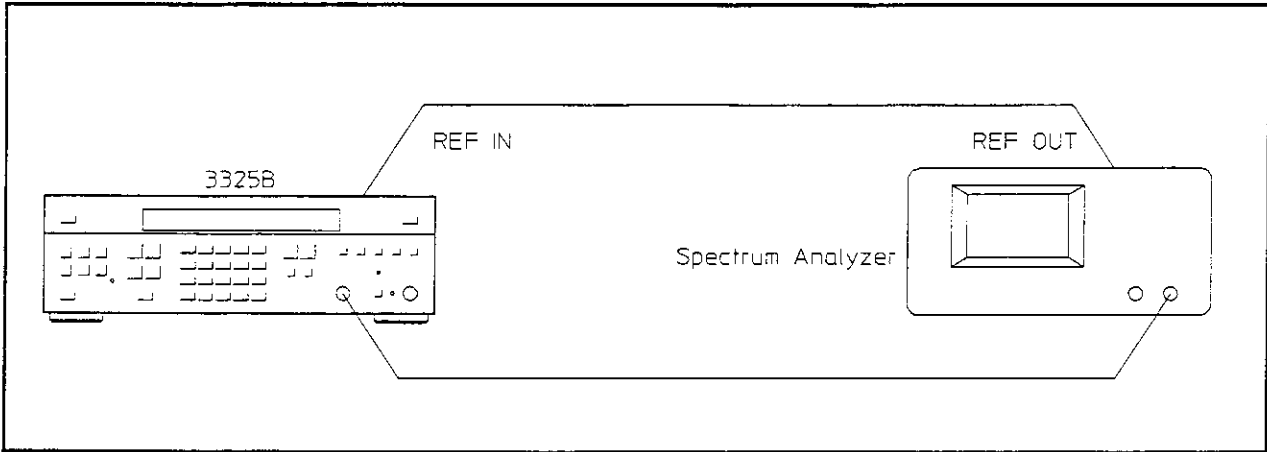

Figure 4-7. Mixer Spurious.
- a. Connect the HP 3325B signal output to the spectrum analyzer 50 $\Omega$  (RF) input and the HP 3325B EXT REF input to the analyzer 10 MHz reference output (see figure 4-7).